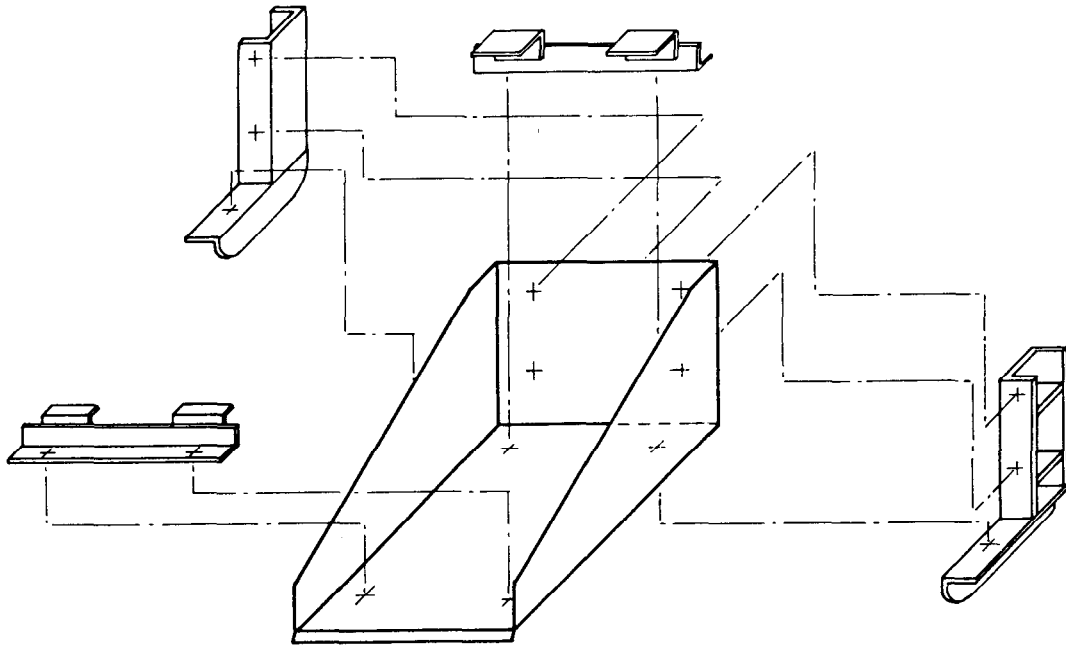

FIG 4 - ASSEMBLY OF BATTERY BOX LOWER, CHASSIS BRACKETS
- c. Retain battery box in place using the 5/8 inch diameter bolts, washers and nuts, (use new lock washers), fit the rear battery clamp as per Fig 4 and secure in place using items 1, 3, 4 and 5 of Table 1, tighten the 5/8 inch diameter nuts and bolts.
- d. Place batteries into battery box (end on and side by side), secure with front battery clamp using items 2, 3, 4 and 5 of Table 1.